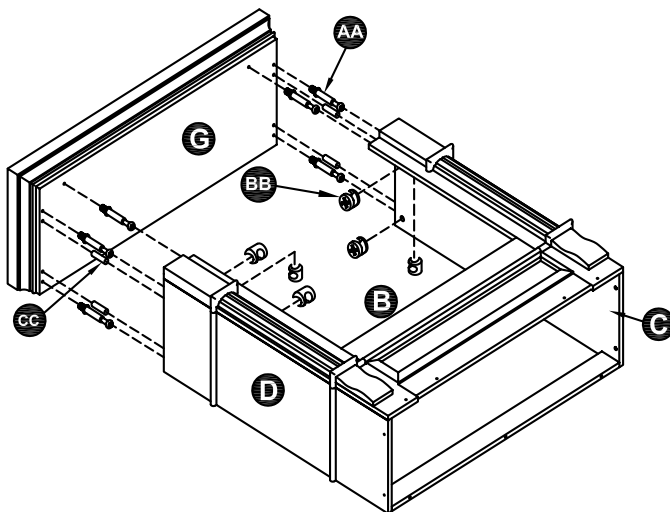

Figure 4
4. First, flip the previously assembled frame and insert the cam Locks (BB) and wood Dowels (CC) into the left side panel (C) and right side panel (D), respectively. Screw the cam Dowels (AA) into the Base (G). Secure it by tightening the cam Locks (BB), as shown in Figure 4.